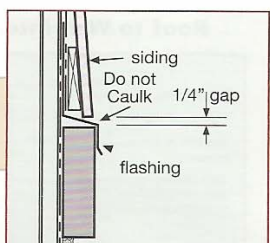

FIGURE 18
- Maintain a 1/4" clearance between James Hardie products and horizontal flashing (Figure 18).